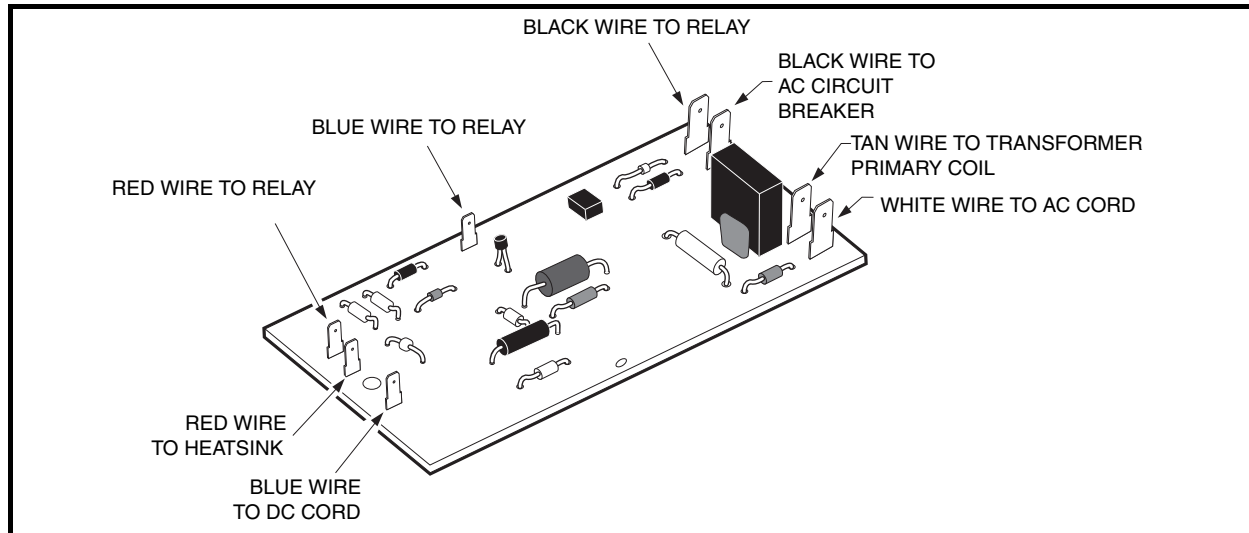

Figure 9-7 Control Board
2. Disconnect tan wire from transformer primary coil at terminal on control board (**Figure 9-7, Page 9-12**). **See following DANGER.**